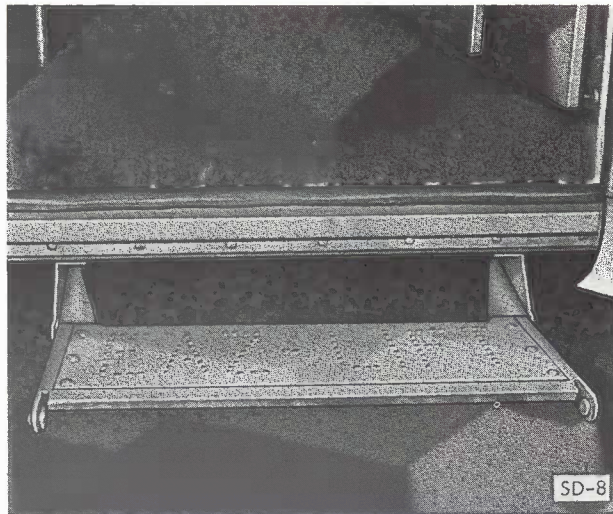

Figure 4-6. Passenger Door Step
c. Passenger Door Step (fig. 4-6). The passenger door is equipped with an "EAS-LIFT" pull-out step for ease of entry and exit. Pull out step from under door sill and push on step to lock in extended position. Lift step to unlock and slide under door sill before moving coach.
Passenger door step is up and under door sill.	See figure 4-6.